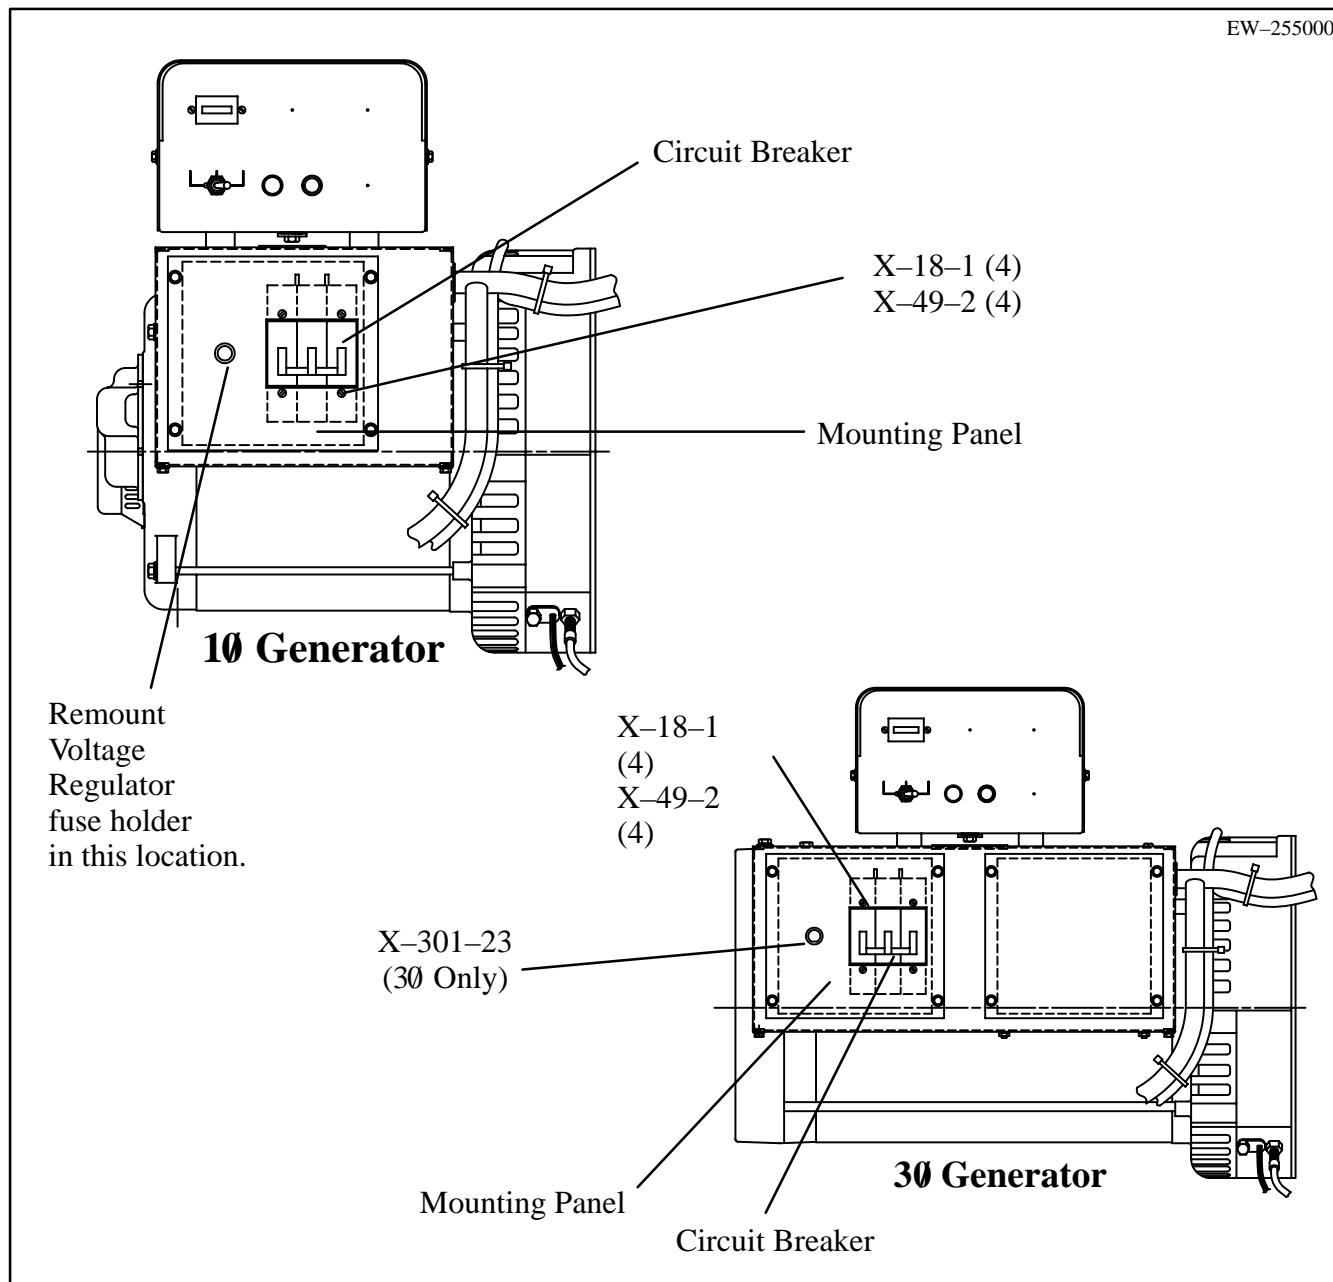

Figure 2. Installation Drawings
4. Install circuit breaker to new panel with four screws and lock washers. See Figure 2.
6. For 3 phase units assemble button plug (X-301-23) into mounting panel. See Figure 2 for proper location.
7. For single phase units remount voltage regulator fuse holder into proper position through hole supplied in mounting panel. See Figure 2.